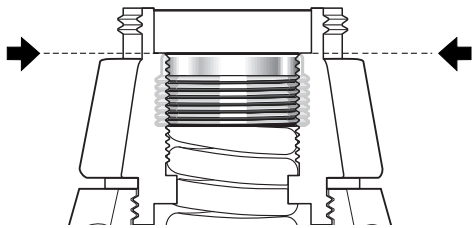

Fig. 5b
- b. "D" Environmental Spring Retainer – Turn the adjustment screw clockwise until it is exactly flush with the internal shoulder, above the female threads (see Fig. 5b).